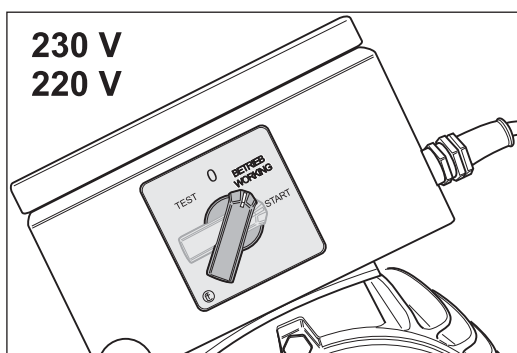

Fig. 24 Once the motor has reached its full speed, release the switch button. The switch button will then automatically move to position -BETRIEB (WORKING)-.
- 3** Once the motor has reached its full speed, release the switch button. The switch button will then automatically move to position -BETRIEB (WORKING)- (fig. 24).